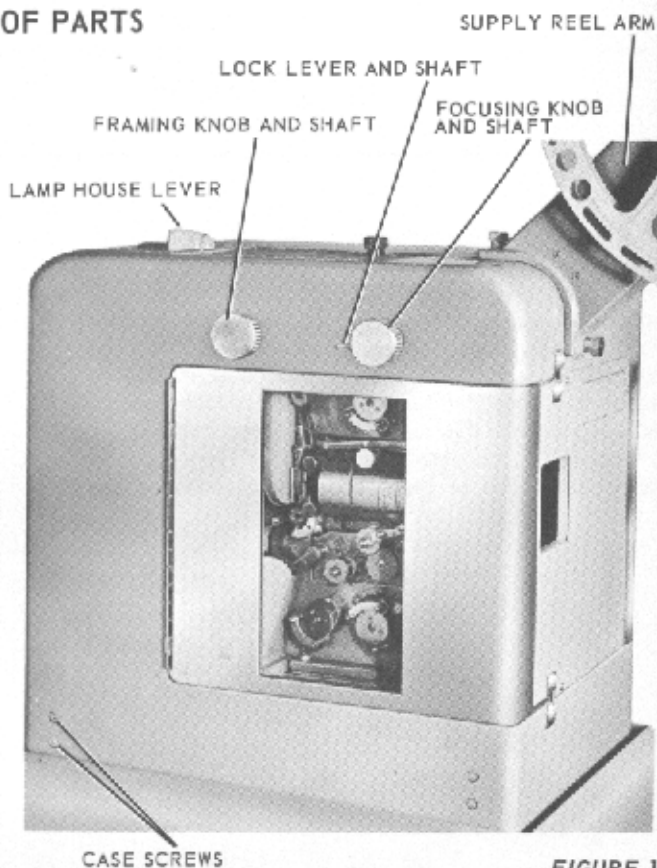

FIGURE 1
- a. Loosen the setscrew and remove the LAMP HOUSE LEVER, figure 1.